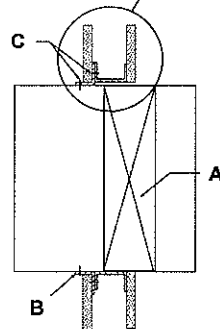

Figure 3: Under Drywall Installation (Metal Stud Only)
- Vertical:** Single-side mounting angles shall be a minimum of ¾" x 1-½" tall x 20 gauge (19 x 38 x 1.0) steel. For metal stud partitions only, the single-side mounting angles may be attached to the metal stud prior to installation of the drywall. See Figure 3.